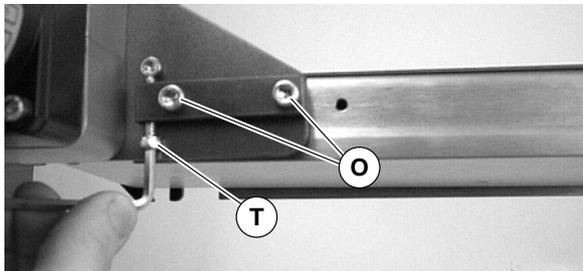
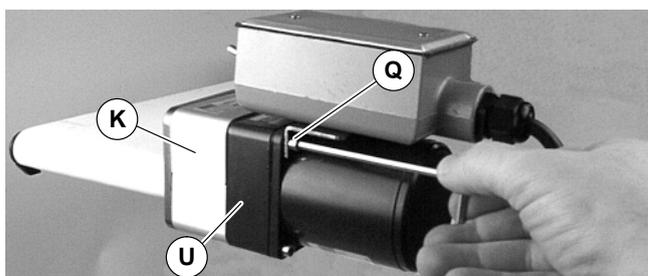

Figure 10
Figure 11
1. Loosen two (2) screws (O of Figure 10). Tighten timing belt tensioner screw (T) to 1.7 Nm.
1. Loosen two (2) screws (O of Figure 10).
2. Loosen timing belt tensioner screw (T).
3. Remove four (4) screws (Q of Figure 11). Remove gearmotor (U) and top cover (K).
7. Insert top cover (K of Figure 11) into bottom cover. Mount assembly with two (2) top screws (Q). Tighten to 5 Nm.
8. Tighten timing belt tensioner screw (T of Figure 10) to 1.7 Nm.
9. Tighten screws (O) to 9 Nm.